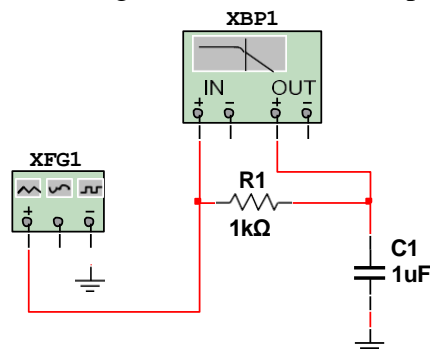
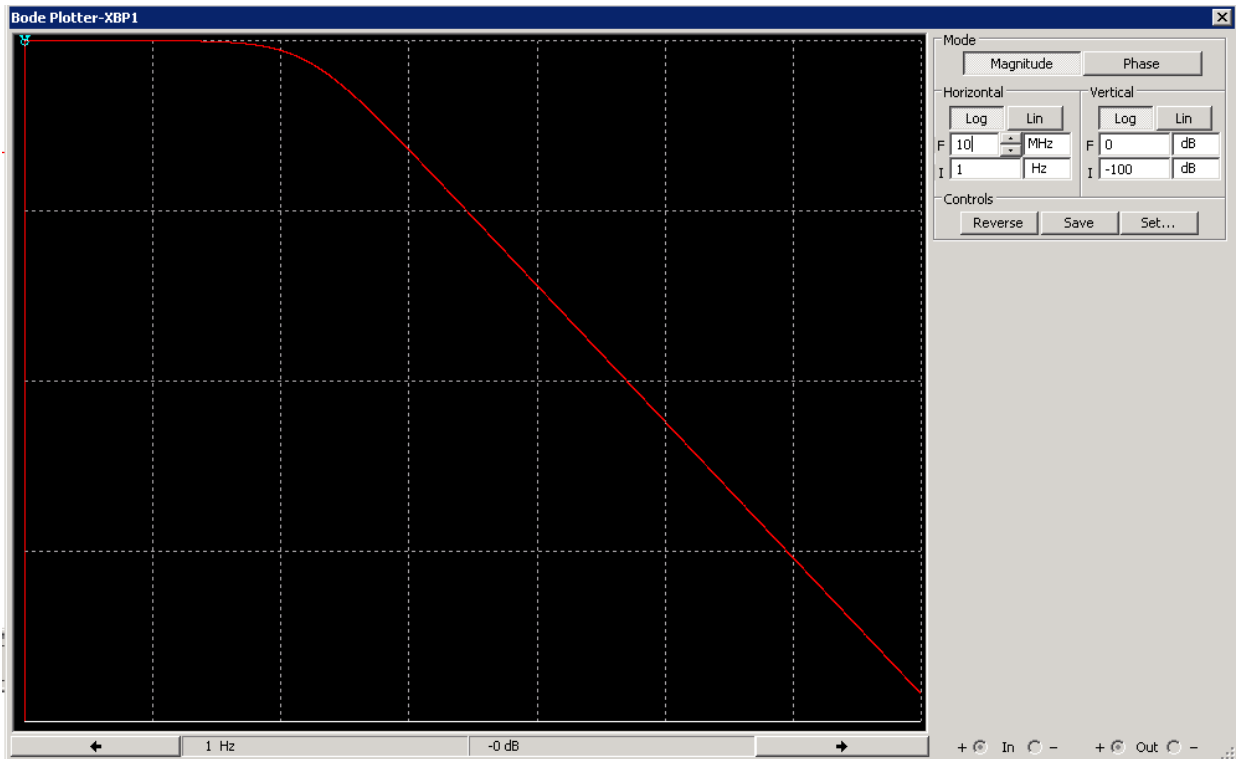

Figure 12 – Circuit Setup for Bode Measurement in Multisim
Figure 13 – Bode Magnitude plot created in Multisim.
- 1 Using Multisim, one can measure the Bode plot of a given filter. Refer to Fig. 12. This is a simple RC circuit driven by a function generator. The —XBP1 instrument is known as a Bode plotter and (found in the —Instruments toolbar) applies a sweep of frequencies to the circuit (imagine a function generator inputting a signal with varying frequency as well as varying voltage) then measures the response of the output relative to the input, thus providing a plot of the transfer functions. Note that it is not necessary to set the values of the function generator for the bode plotter to work.
In Fig. 12, we have a resistance of $1\text{k}\Omega$ and a capacitance of $1\mu\text{F}$. Thus, by (7), $\omega_0 = 1,000\ \text{rad/s}$, or $159.16\ \text{Hz}$ ($\omega = 2\pi f$). This is verified in Fig. 13. By double-clicking on the Bode plotter and energizing the circuit, the cursor can be adjusted to read roughly -3dB. As can be seen, this attenuation corresponds to value of roughly 159 Hz (and a phase of -45° , as seen in Fig. 14).
- 2 Build the same circuit as in Fig. 12, but use values of $4\text{k}\Omega$ and 500nF for the resistance and capacitance, respectively. Take screenshots of both the magnitude (with the cursor at the -3dB magnitude frequency) and phase plots.
b) Build the circuit in Fig. 15 using values $R = 100$ and $L = 2.2\text{mH}$ on your myDAQ breadboard. Connect the input voltage $V_{in}(t)$ (3Vp-p) to a voltage follower circuit (Fig. 13 Operational Amplifier) and use V_{out} of the voltage follower as the input to the RL circuit. Display both the input and output of this circuit on the Oscilloscope. Take a screenshot and e-mail to the TA.